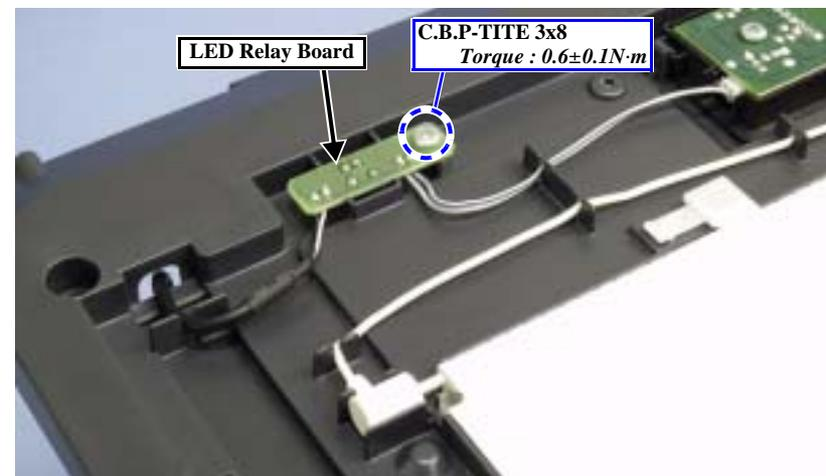

Figure 4-49. Removing the LED Relay Board
7. Remove the connector from the Inverter Board. (Fig. 4-49)